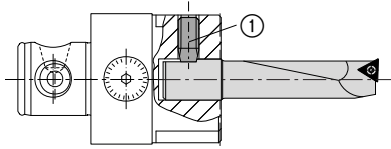

fig. 5
Tool holders with clamping surfaces are secured in the slide with a set screw ①. Tightening torque 8 Nm (70.8 in.lbs.) (fig. 5).